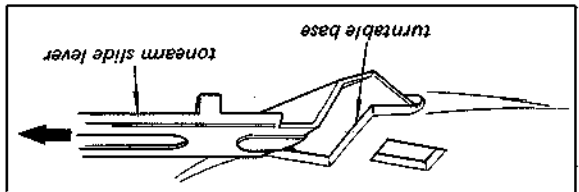

Fig. 2-6. Tonarm slide lever removal (2)
5. Remove the tonearm slide lever in the arrow direction in Fig. 2-6.